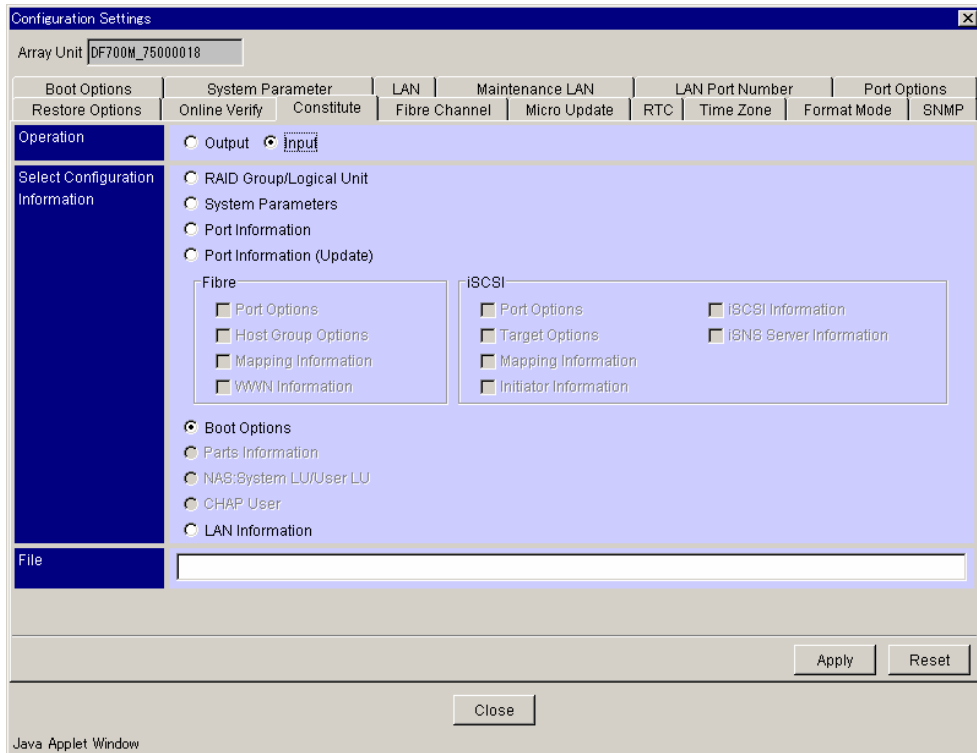

Figure 9.29 Configuration Settings - Boot Options (input)
2. Click the **Constitute** tab. See Figure 9.29.